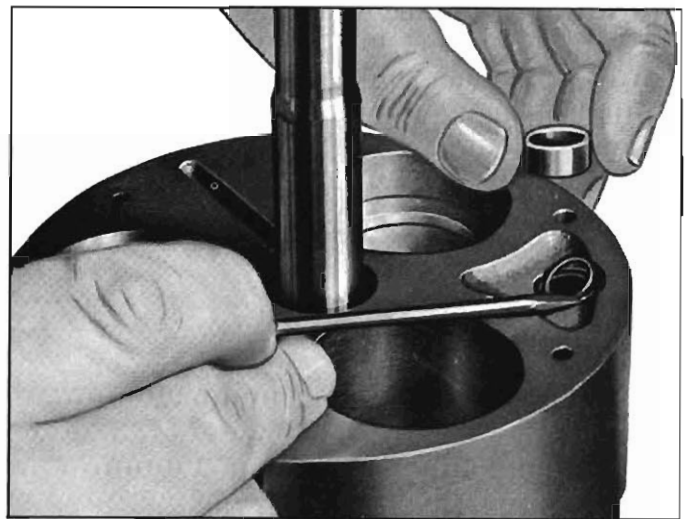

Fig. 11-55—Installing Discharge Crossover Tube Front “O” Ring and Spacer
3. Install the discharge crossover tube front “O” ring and spacer (fig. 11-55).